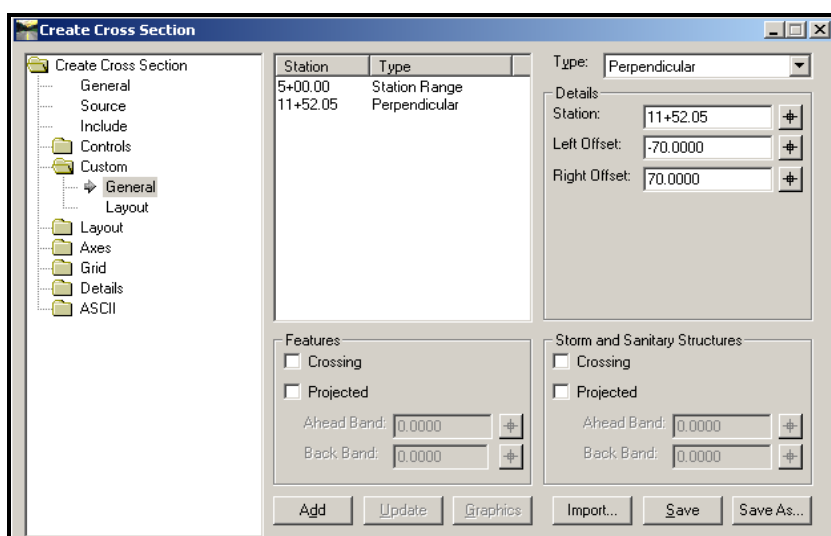

Figure 20-27: Create Cross Section - Custom - Perpendicular
Depending on what preference was selected will determine the **Left** and **Right Offset**: (Figure 20-27). Refer to **Create Cross Section>General** leaf of this dialog to see what the offsets are and use those values here. Remember to use a negative value for the **Left Offset**.
- 🎵 The offsets shown in Figure 20-27 are for a full section matching the standard left and right offsets of the Station Range. If there is a need to have more of a section to the right of centerline the values could be adjusted to reflect the need. For